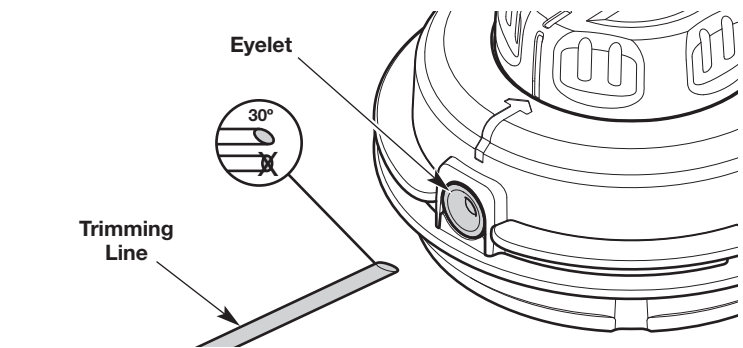
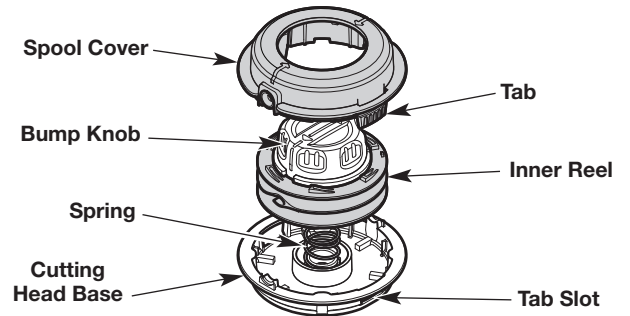

Fig. 23
Fig. 26
- Cut two 10-foot (3.0 m) lengths of new trimming line. Cut one end of each line at a 30 degree angle (Fig. 23).
- Insert one of the lines into an eyelet on the cutting head (Fig. 23). Use the angled end and push the line in about 3 inches (7.5 cm). Repeat this process with the other line and remaining eyelet.
- c. While holding the screwdriver in place, gently twist the screwdriver to unlock the tab from the tab slot (Fig. 26).
- d. Remove the spool cover (Fig. 26). **DO NOT** remove the spring from the cutting head base (Fig. 26).
- e. Push the bump knob through the spool cover. (Fig. 26). If the eyelets come off, reinsert the eyelets on the spool cover (Fig. 23).
- NOTE: DO NOT** separate the bump knob from the inner reel (Fig. 26).
- g. Use a clean cloth to clean the inner reel, cutting head base and spool cover (Fig. 26).
- h. Insert the bump knob and inner reel into the spool cover (Fig. 26).
- i. Align the tabs on the spool cover with the tab slots on the cutting head base (Fig. 26). Push the spool cover onto the cutting head base until the tabs securely snap into place.